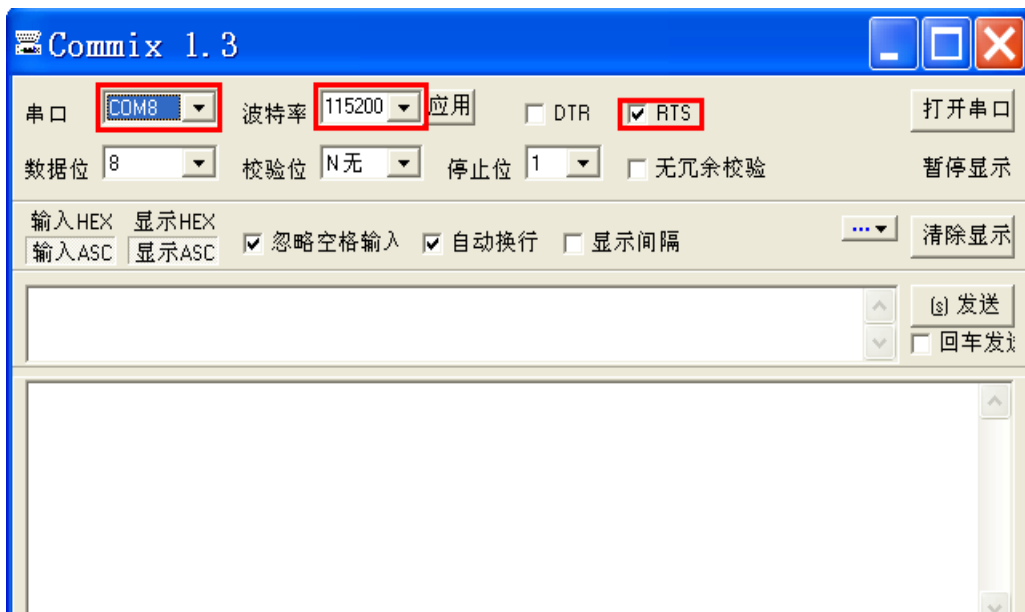

Figure 7 Commix configuration
c) Open Commix tool, and set configuration as shown in Figure 7.